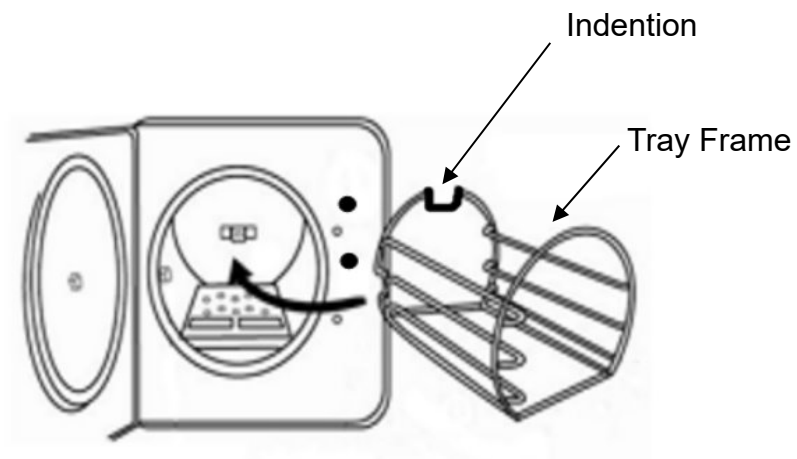

Figure 6
E. Install the tray frame as Figure 6. (optional accessory)
**⚠ Caution:** The frame should be installed as Figure 6 below. The indentation of the frame will pass the bushing in the chamber.